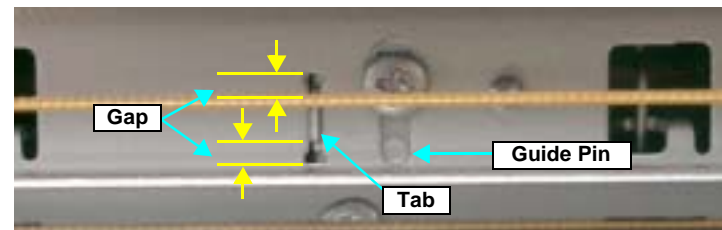

Figure 4-27. Checking the Position of Tab on the Guide Roller LD
- Align the Guide Pin and Tab on the 0 Digit Side Guide Roller LD with the positioning holes on the Main Frame, and tighten the Guide Roller LD (0 Digit Side) with the screws. See Figure 4-27.